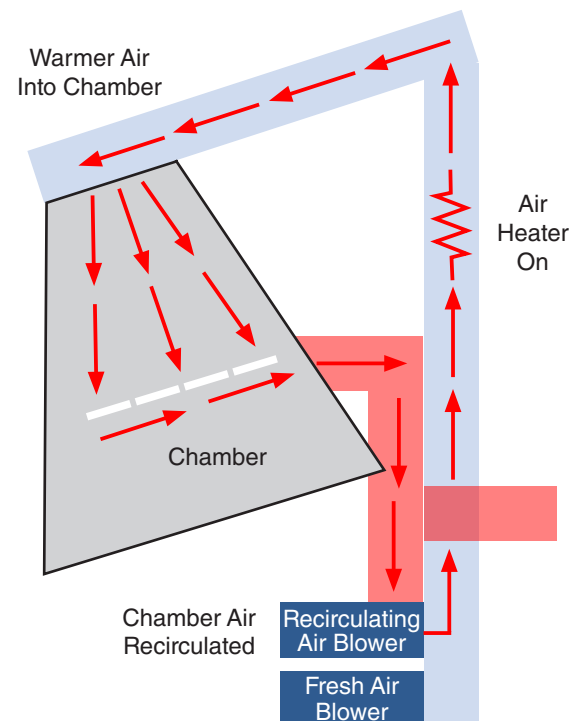

Figure 7.3b: Schematic showing air flow for chamber temperature heating.
- To raise chamber temperature, chamber air is recirculated and the air heater is activated (Figure 7.3b).